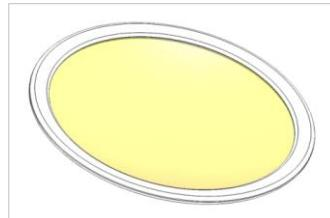

Fig. 5.2.1. Sieve for inserting in the collecting basin
2. Switch off the machine at the mains power switch (0) (Reset).
5. Place the sieve in the collecting basin (*Fig.5.2.1 / 5.2.2*).